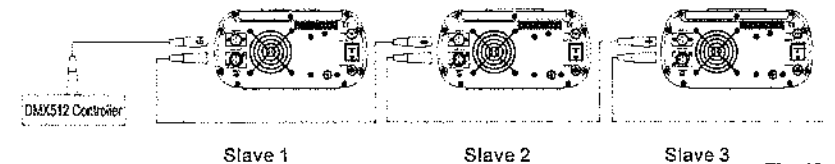

Fig. 19
- ① If you need Master/Slaves change color synchronously, please set all of slaves into "001";
- ② If you need Master/Slaves chase to change color, please set slaves into "006", "011" and so on (add "5" one after another).
3. The connection of DMX Signal Control Mode (See Fig. 19):